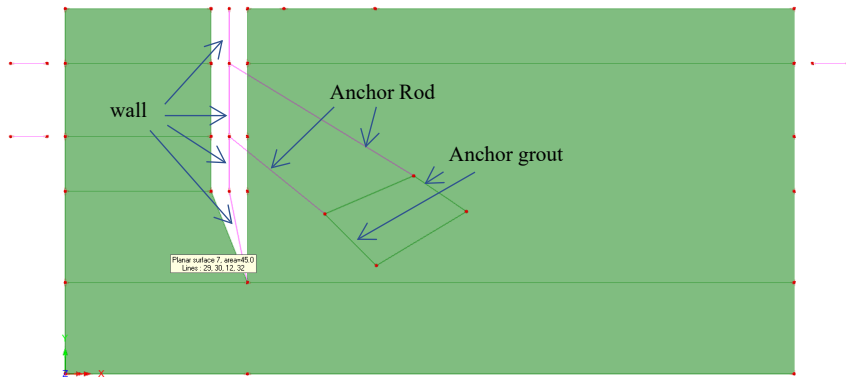

Figure 20: Assignment of geometric properties to lines
- Assign the **Wall**, **Anchor Rod** and **Anchor Grout** properties in turn to the relevant selected features in the model, (figure 20).